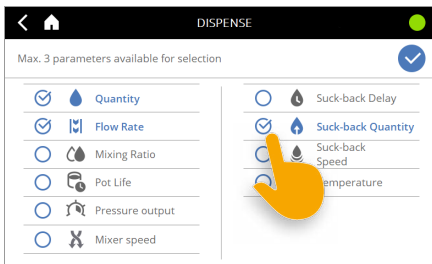

Fig. 62
- ▶ First click on a parameter to deselect it and then reselect it (Fig. 62).